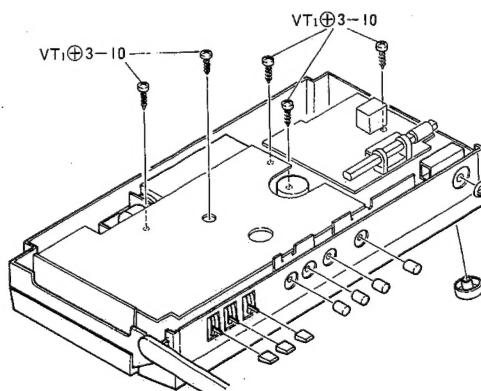

Fig. 6
- 2) Remove all control knobs (total 9 pieces). (See figure 6)
- 4) Remove the 7 screws. (See figure 6)